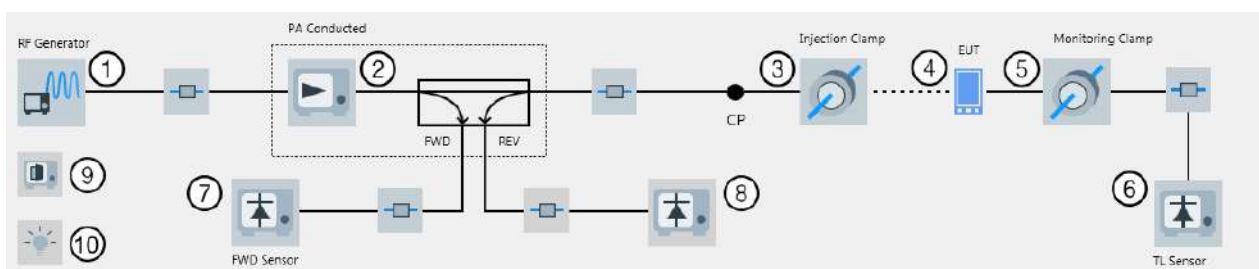

Figure 4-148: EMS hardware setup diagram for BCI (with Sensor) in EUT Test View
- The "EUT Test View" (see Figure 4-148)
In a typical BCI setup, the EUT's output is monitored by a transducer and TL sensor not only during calibration, but also during the test. Monitoring the live current with a monitoring clamp as in Figure 4-148 ("EUT Test View") allows controlling and limiting the forward power. Or, when you use the Substitution Method, it allows limiting the current.